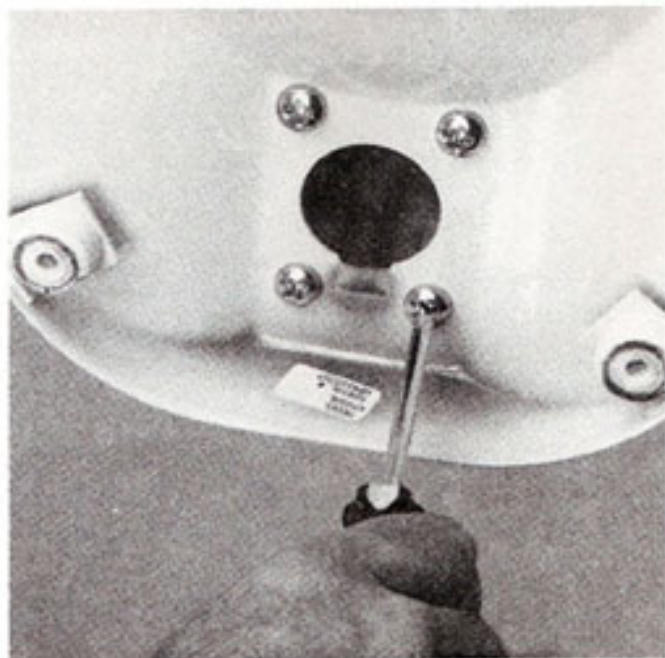

Fig. 88
D. With the bowl lift assembly on the bench, lay it on its back and remove the four $\frac{5}{16}$ "-18 x $\frac{3}{4}$ " round head screws (Fig. 88) and lift the column off the base.